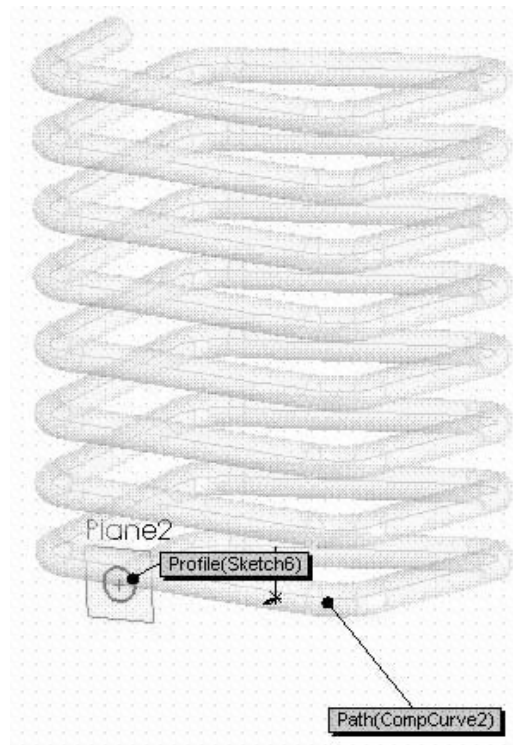

Figure 12 - Preview of the swept feature
33. The preview of the swept feature is displayed, as shown in the Figure 12. Choose the Ok button to confirm the creation of the swept feature.